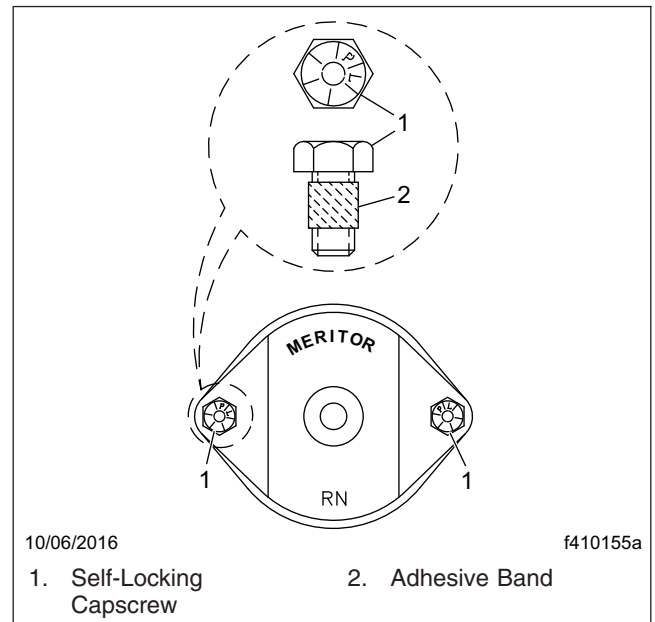

Fig. 1, Arvin Meritor U-Joint Fasteners for Bearing Caps
2. For U-joints with bearing caps, tighten bearing-cap capscrews 43 lbf-ft (49 N·m). See Fig. 1.